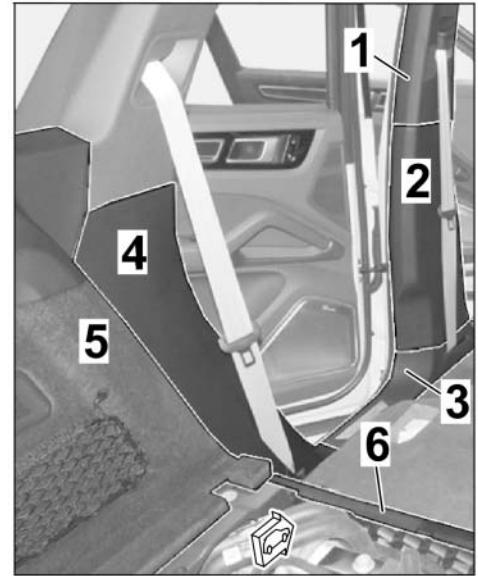

Figure 11
1.6 Expose the B-pillar area (left side) (⇒ *Figure 11*)